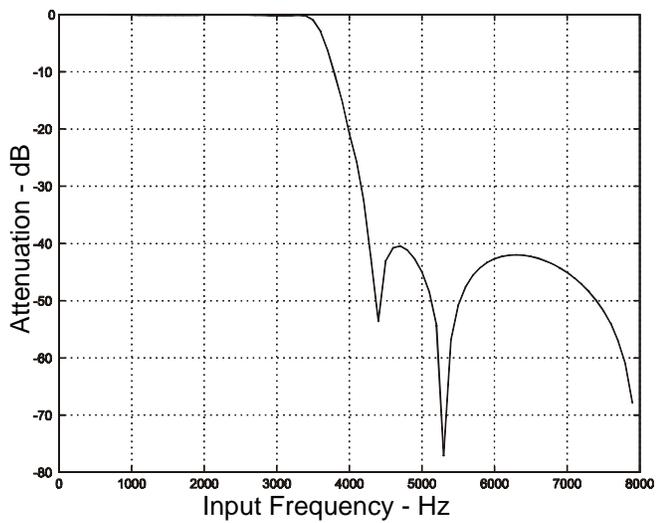
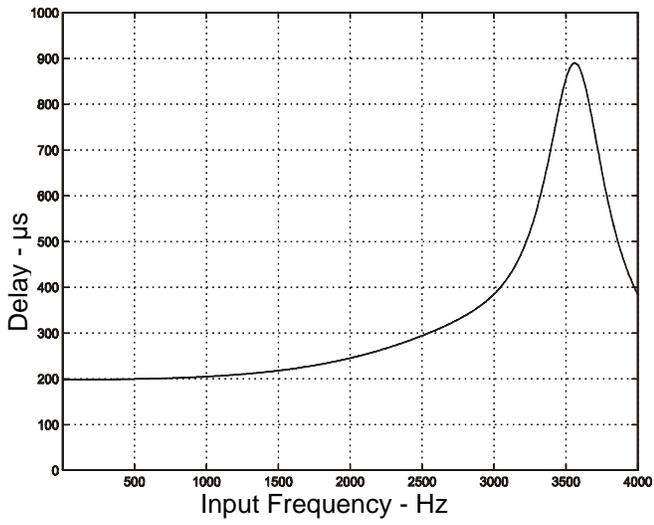

Figure 10. IIR Receive Filter Response
Figure 14. IIR Receive Group Delay
**Note:** Typical IIR filter characteristics for Fs = 8000 Hz are shown in Figures 10, 11, 12, and 13. Figures 14 and 15 show group delay versus input frequency.
For Figures 10–13, all filter plots apply to a sample rate of  $F_s = 8$  kHz. The filters scale with the sample rate as follows: